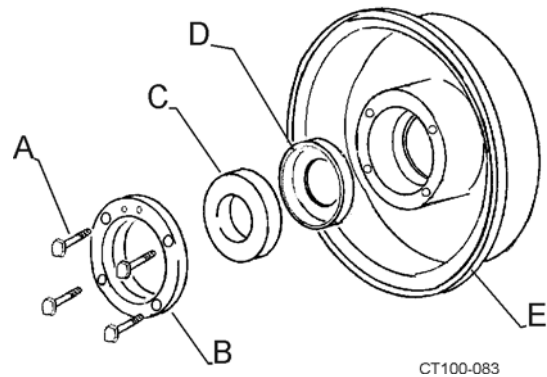

Figure 28 - Removing Stationary Seal
- Remove four 1/4" hex bolts and stationary seat retainer ring. (Figure 28, items A and B).
- Pull the stationary seal and L-gasket out of backplate. (Figure 28, items C and D).